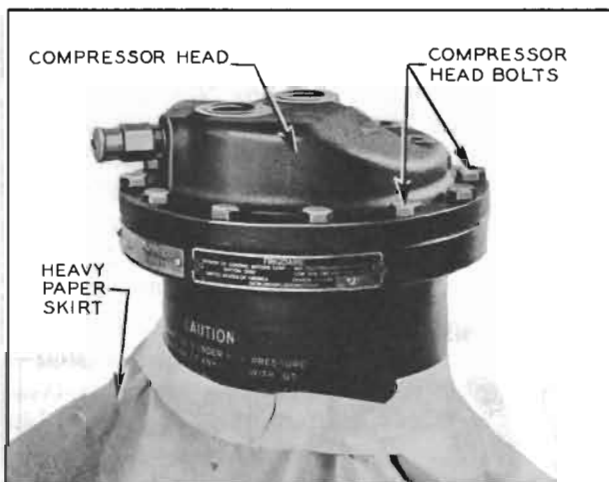

Figure 11-35—Installing Clutch Protection
3. Tape heavy sheet of paper around compressor shell to form protective skirt to prevent oil from running down on clutch parts. See Figure 11-35.